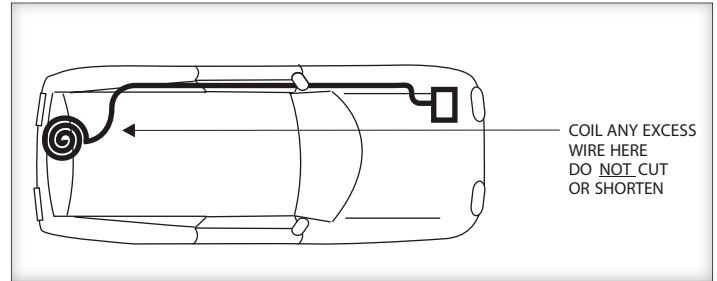

Figure 16-1
- If the harness is too long, coil the excess wire and secure it to the vehicle frame/bumper with the supplied wire ties. [Figure 16-1]